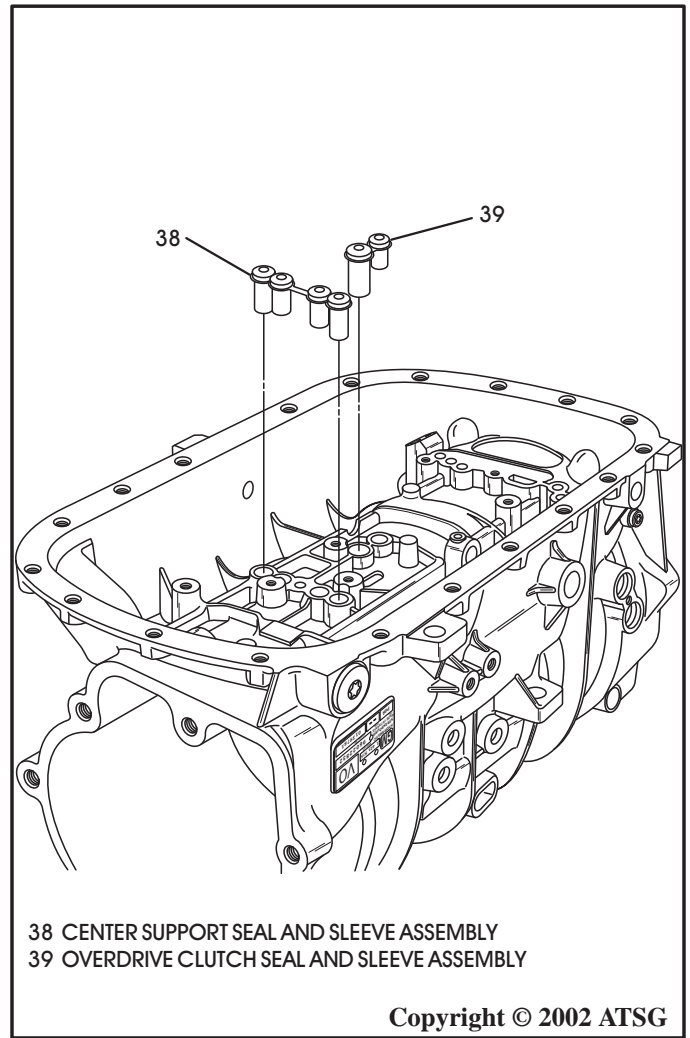

Figure 40
30. Remove and discard the valve body seals from the case, as shown in Figure 40.